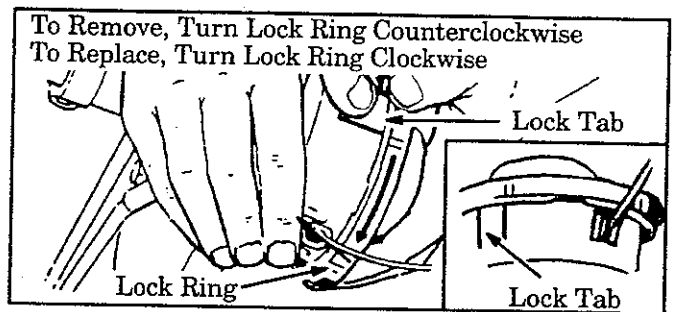

Figure 19
- Hold the trimmer head as shown in Figure 19. Press the lock tab and turn the lock ring as shown in Figure 19.